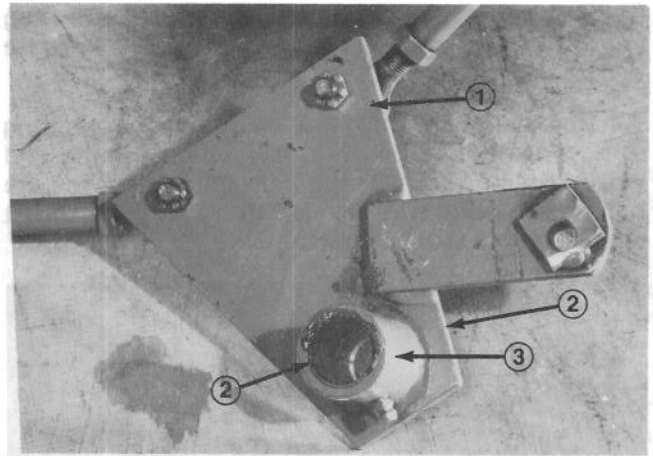

Figure 46
4. Using pin punch and hammer, drive both bushings out of steering plate (Fig. 46). Clean inside of steering plate to remove dirt and foreign matter. Also clean mounting pin on bottom of rear axle.
5. Notice groove on inside of new bushing. When it is installed, open end of groove must be to the outside of the steering plate tube. Apply grease to the inside and outside of the new bushings. Use an arbor press to drive bushings into top and bottom of the steering plate tube. Bushings must be flush with end of tube (Fig. 46).